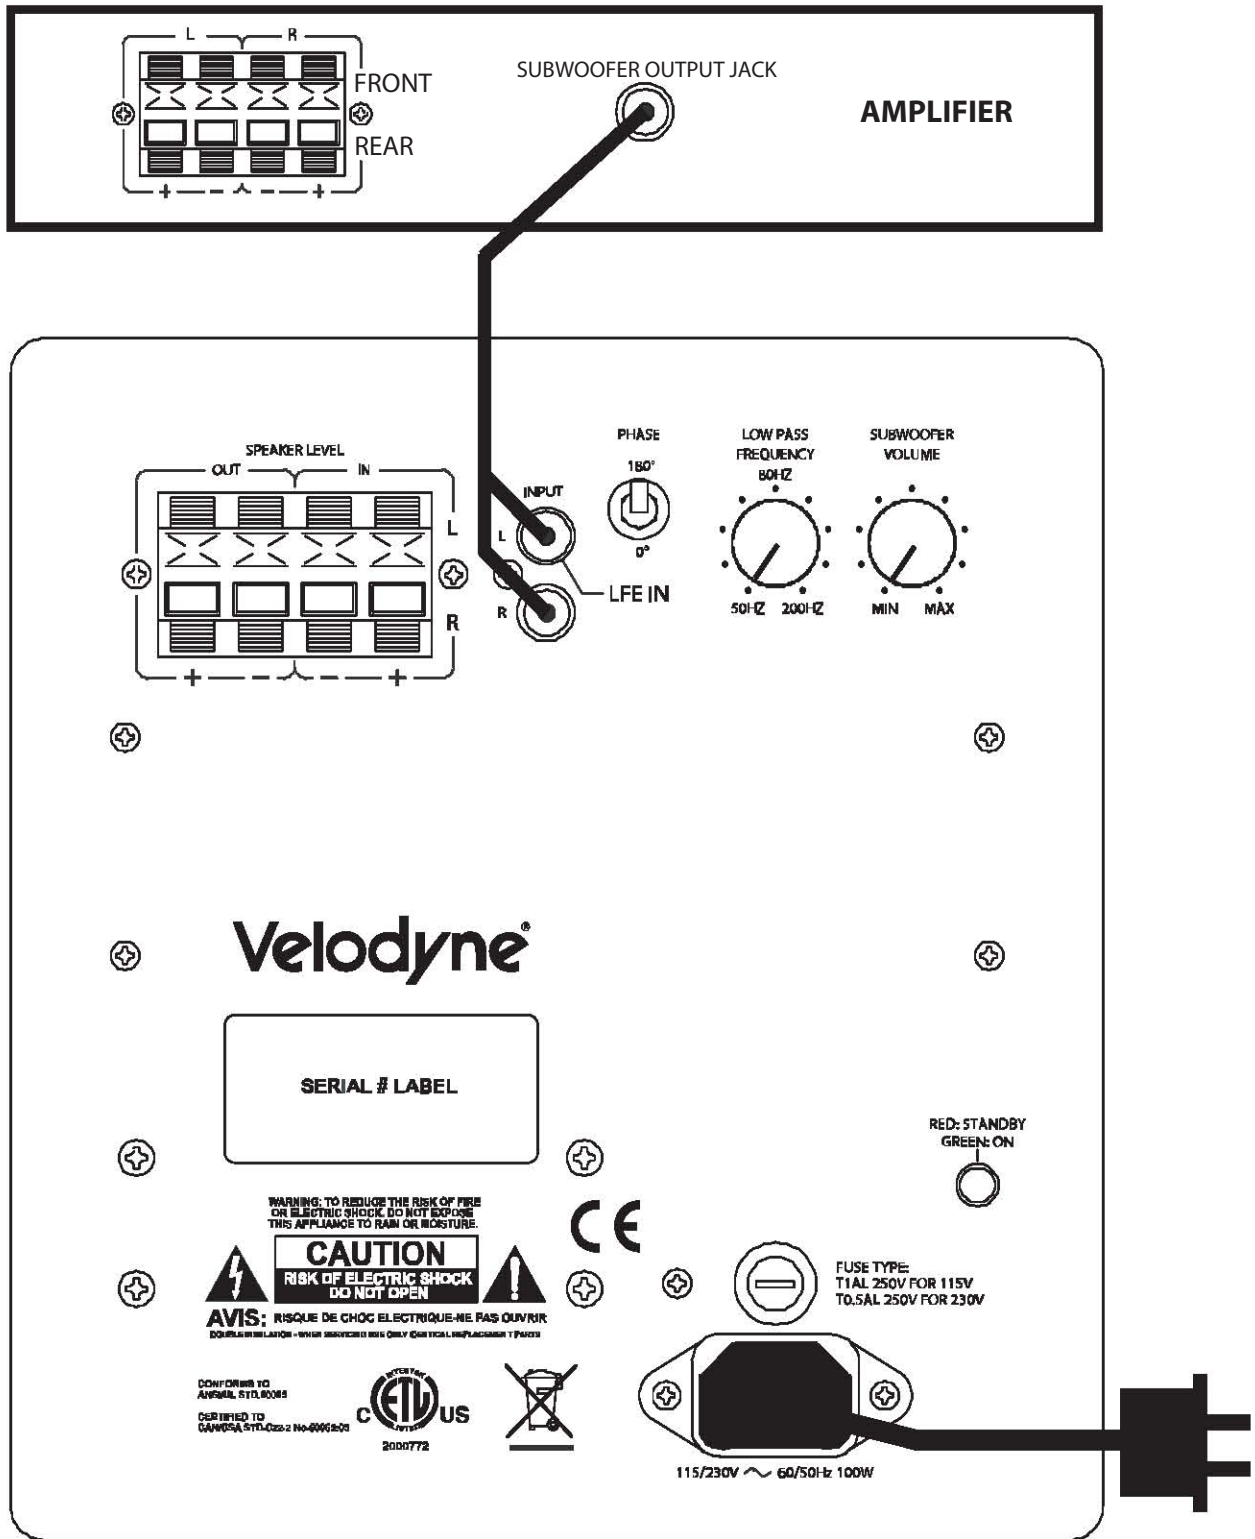
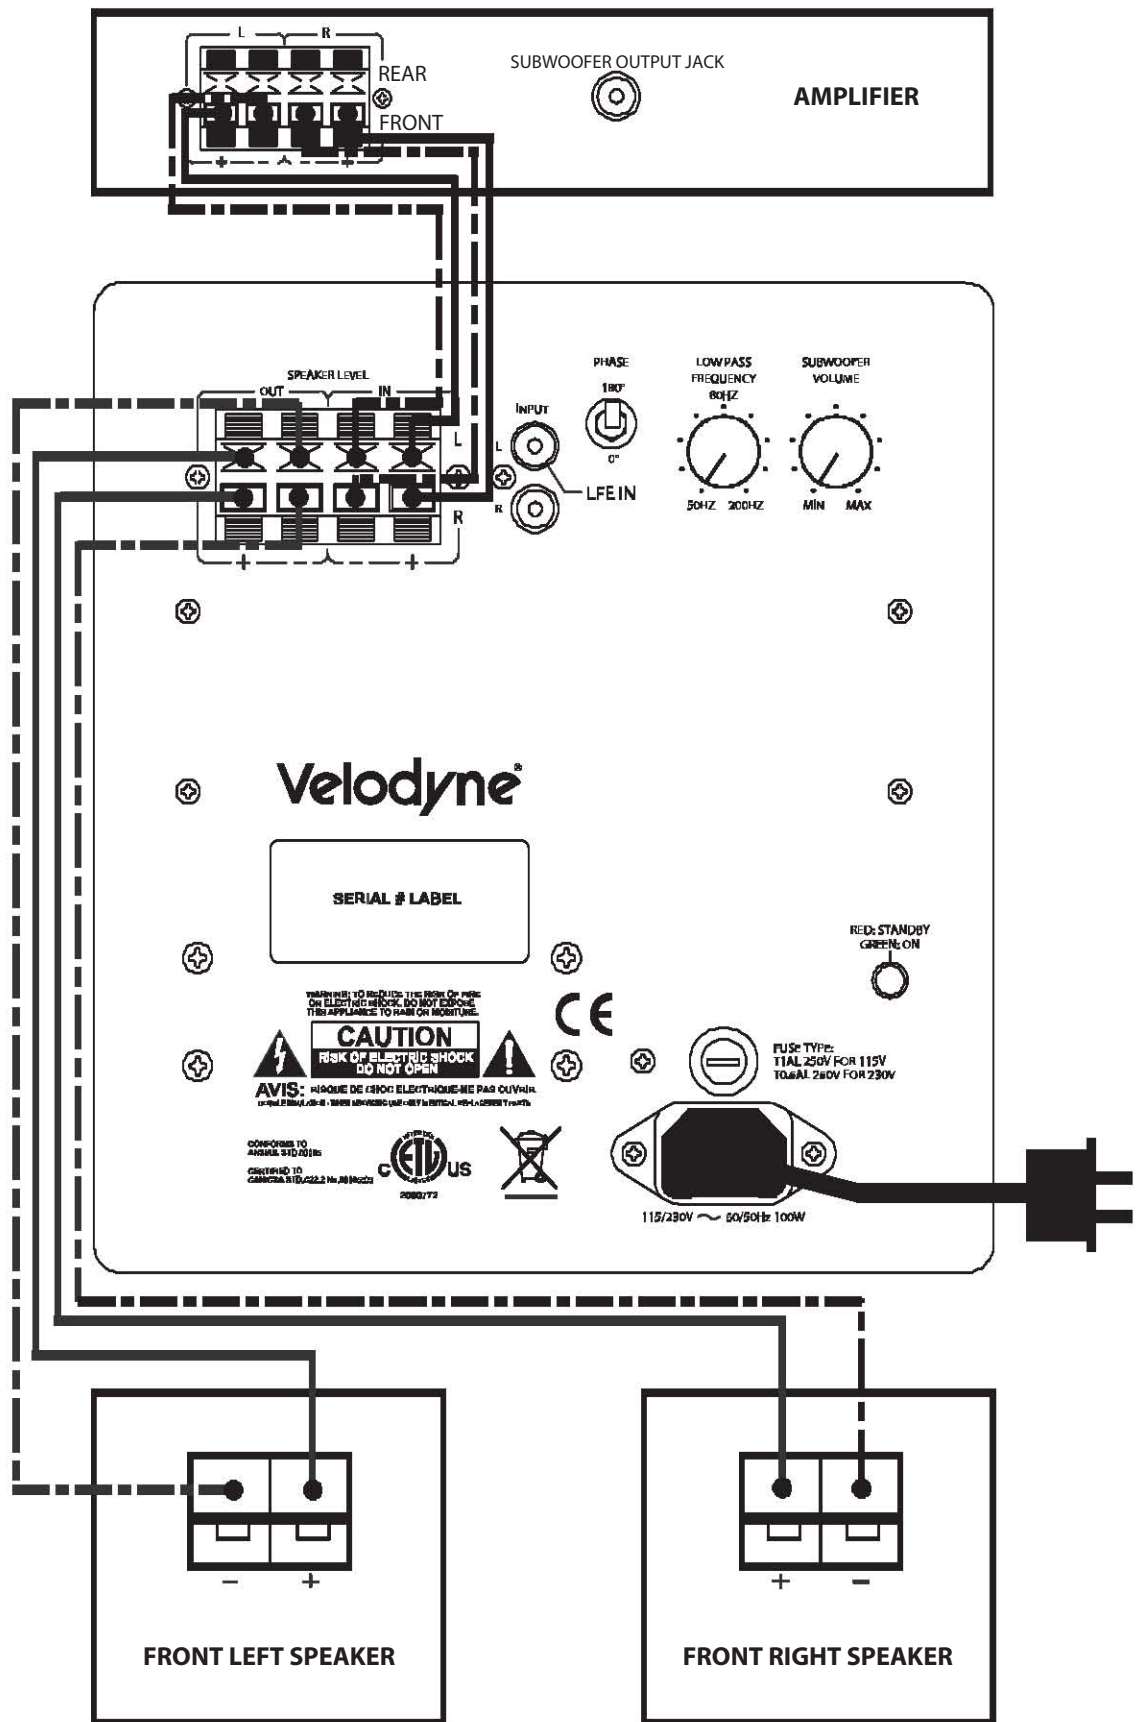

Figure 2a. Line-Level Subwoofer Connection Diagram
Figure 2b. Speaker-Level Subwoofer Connection Diagram
1) If using line level jacks, BOTH THE LEFT AND RIGHT INPUT CAN BE USED – never use just the left or just the right input. If the subwoofer's signal comes from the LFE channel of your receiver, use a "Y" splitter to connect to both the left and right inputs.* If using line level connections from a preamp or signal processor, use both Left and Right inputs from your preprocessor or preamp and connect them to the Left and Right inputs on your subwoofer. (See figure 2a on page 7.)
2) If using a receiver with LFE out, be sure the LFE channel is sending adequate signal to the subwoofer. We recommend setting the subwoofer's level to the 9 o'clock position (the 1/4 volume setting) and then adjust the LFE channel on your receiver or processor to achieve the desired bass output. See your receiver or processor's owner's manual for more information. (See figure 2b on page 8.)
(Refer to Figure 2a Line-Level Subwoofer Connection Diagram and Figure 2b Speaker-Level Subwoofer Connection Diagram, pages 7 and 8 for connection diagrams.)